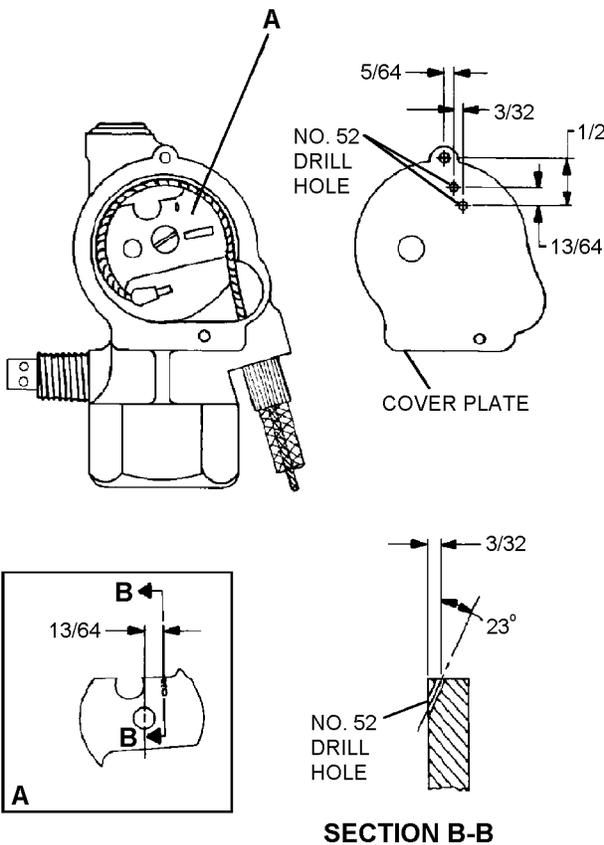

Figure 10-16. Drilling A128 Inflation Valve
3. Using a no. 52 drill, drill two holes in cover plate. See figure 10-16.
6. Using a no. 52 drill, drill a hole at a 23° angle in the valve sheave. See figure 10-16.